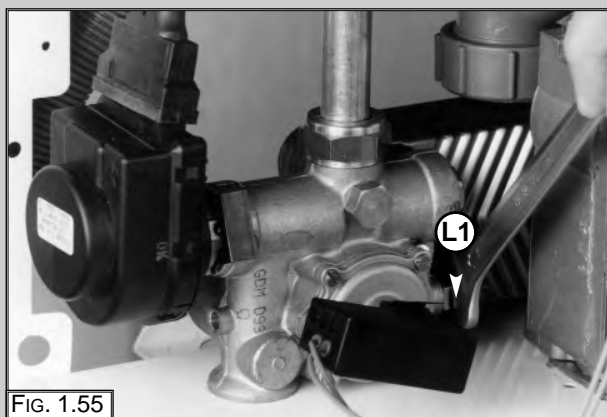

FIG. 1.55
2. Unscrew and remove the D.H.W. temperature probe "L1" (Fig. 1.55).